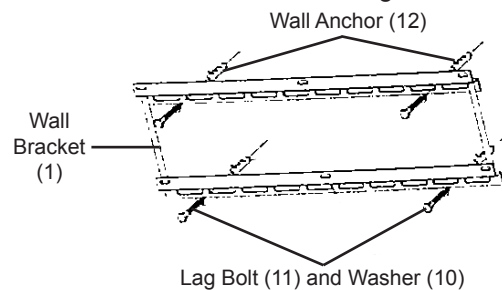

Figure 3
4. Once Wall Anchors are securely set into concrete, use Lag Bolts and Washers to install Wall Bracket to wall. See Figure 3, below.